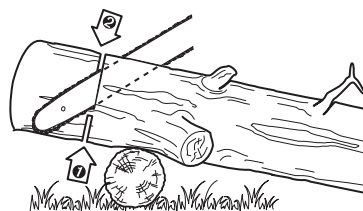

Fig. 41
- > When the log is supported on one end (Fig. 41), cut 1/3 the diameter from the underside (underbuck). Then make the finished cut by overbucking to meet the first cut.